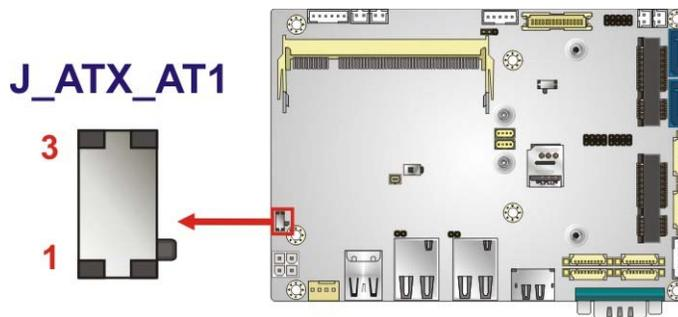

Figure 4-9: AT/ATX Mode Select Switch Location
CN Location:	See Figure 4-9
The location of the AT/ATX mode select switch is shown in **Figure 4-9** below.
- CN Location:** See **Figure 4-9**
The location of the switch is shown in **Figure 4-9** below.